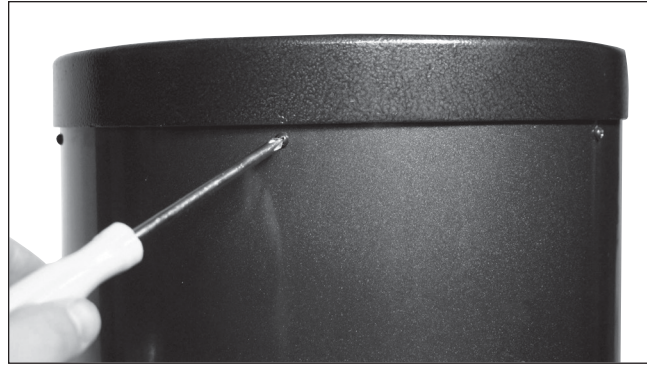

Figure 14. To remove the rear end ring, unthread the screws that connect it to the tube.
1. To install the mirror cell in the optical tube, the rear end ring attached to the lower tube section must first be removed. This is done by unthreading and removing the Phillips-head screws that attach the end ring to the tube (**Figure 14**), and then pulling the end ring off of the tube.